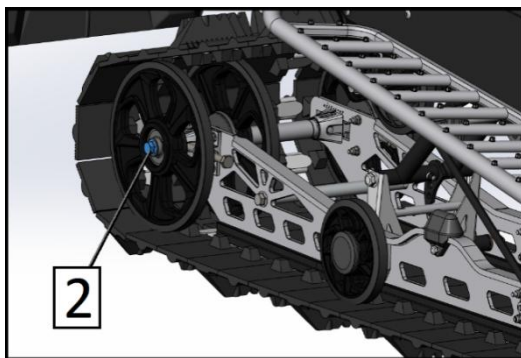

Fig. 39
3. Loosen the fixing bolts of the roller (posture 2, Fig. 39).